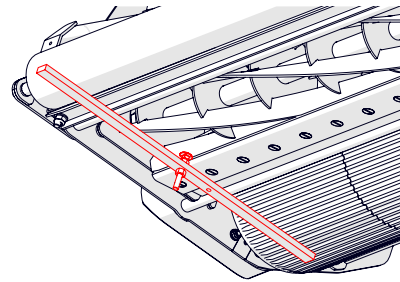

Fig. 9F - Repeat process on the other side
While adjusting the height, position up the setting bar again between the front and rear roller. Stop adjusting when the head rests within the lip of the shear blade (Fig.9F).
8. Repeat step 7 for the second position on the other side of the cassette (Fig. 9F).